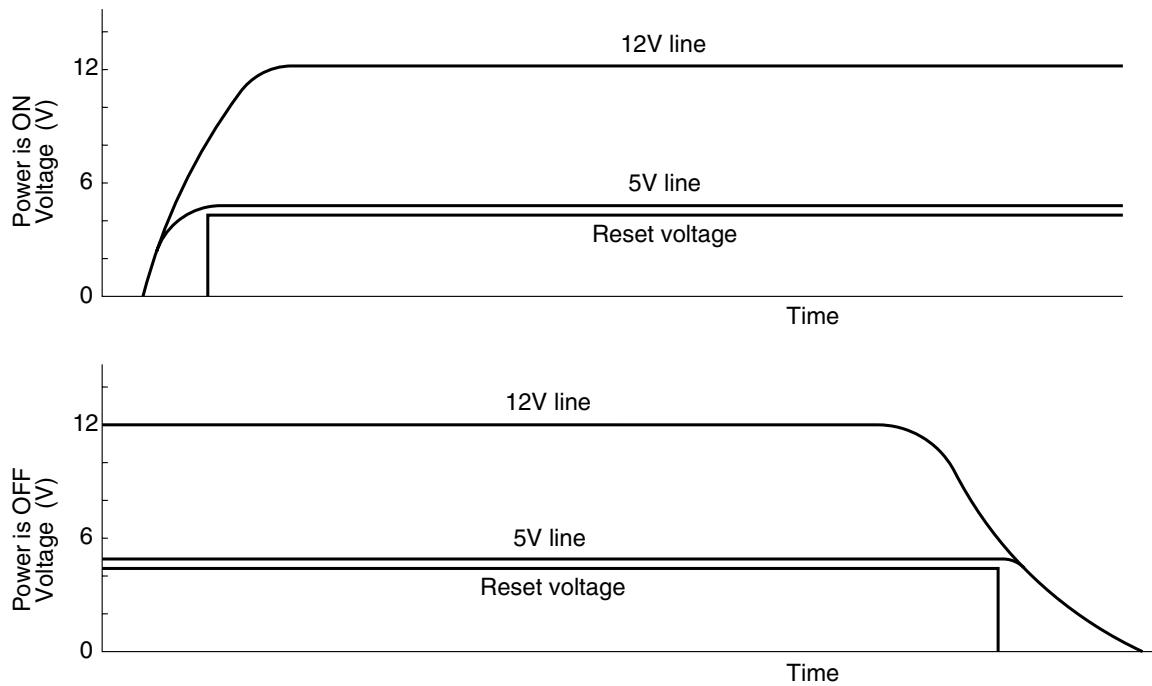

Fig. 9-2
- Fig. 9-1 shows the reset circuit and Fig. 9-2 shows waveform at each point when power is turned on and off.